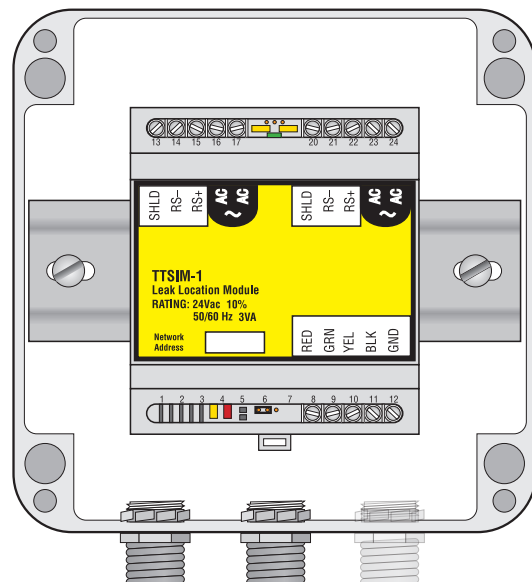

Figure 2. NEMA 4x Enclosure
Mounting the TTSIM-1 module in the optional NEMA-4X Enclosure – Figure 2
- A typical outdoor or harsh environment installation will require up to three holes in the Raychem TraceTek TTSIM-ENC: one for inbound power and telemetry, one for outbound power and telemetry and one for the sensor cable leader. See Figure 2.